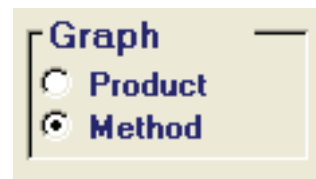

Figure 8-10—Graph type selection
2. Click on the Method option (Under Graph, see Figure 8-10) to create a graph by method.
Or click on the Product option (Under Graph, see Figure 8-10) to create a graph by product.